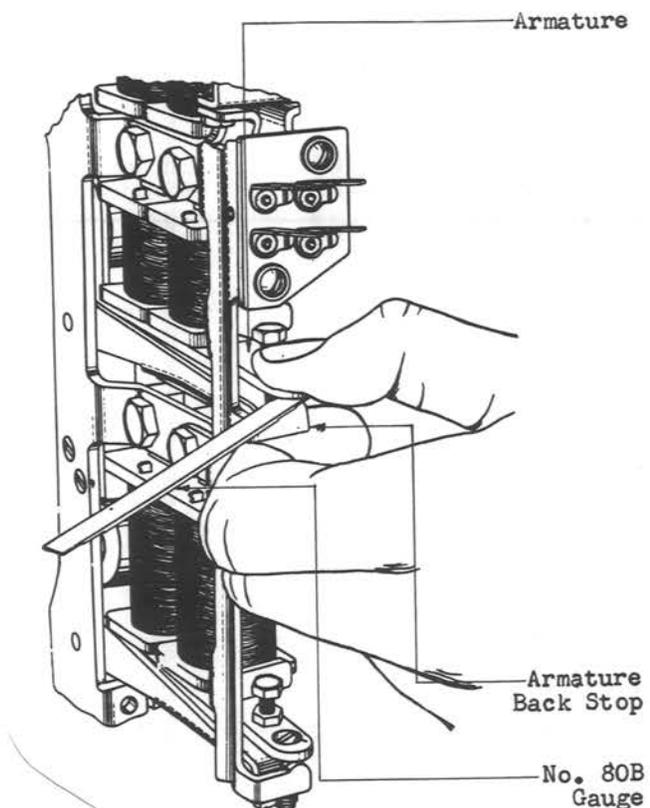

Fig. 23 - Holding Gauge in Position
(2) To check the pawl engagement, place the No. 80B gauge between the armature and the backstop. Clamp the gauge in this position with the thumb and index finger, placing the index finger on the backstop and the thumb on the armature as shown in Fig. 23.